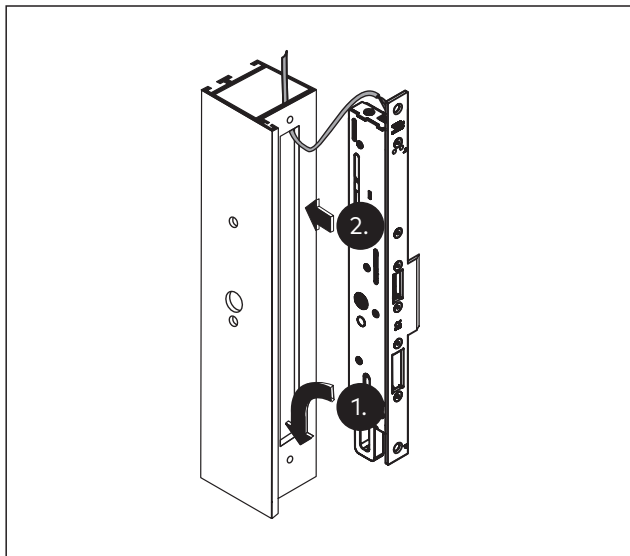

Fig. 33 Insert lock
4. Insert the lock into the door leaf recess (Fig. 33).